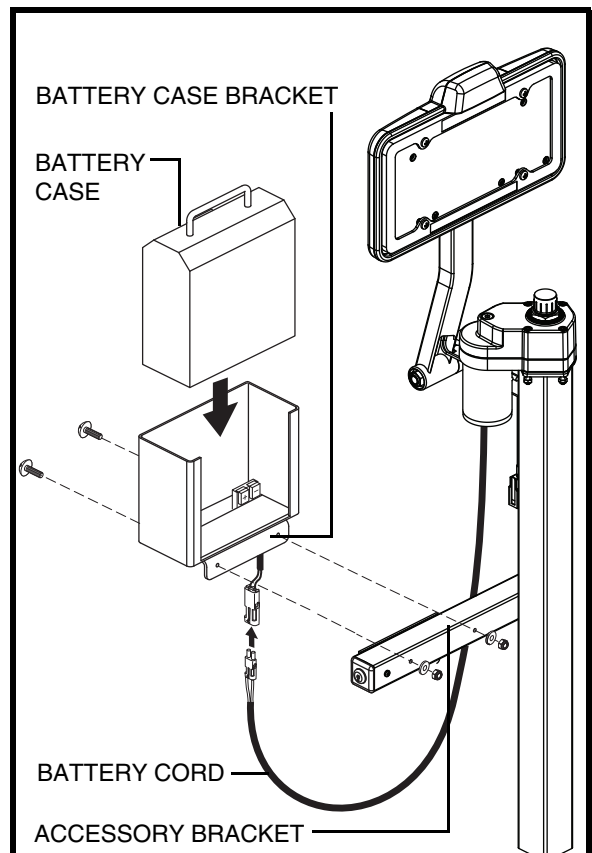

Figure 10. Onboard Battery Installation
1. Align the mounting holes in the battery case bracket with those in the accessory bracket located under the key switch tube. See figure 10.
2. Secure the battery case to the accessory bracket with the supplied hardware. See figure 10.
4. Plug the battery cord on the bottom of the battery case into the mating connector running from the motor. See figure 10.